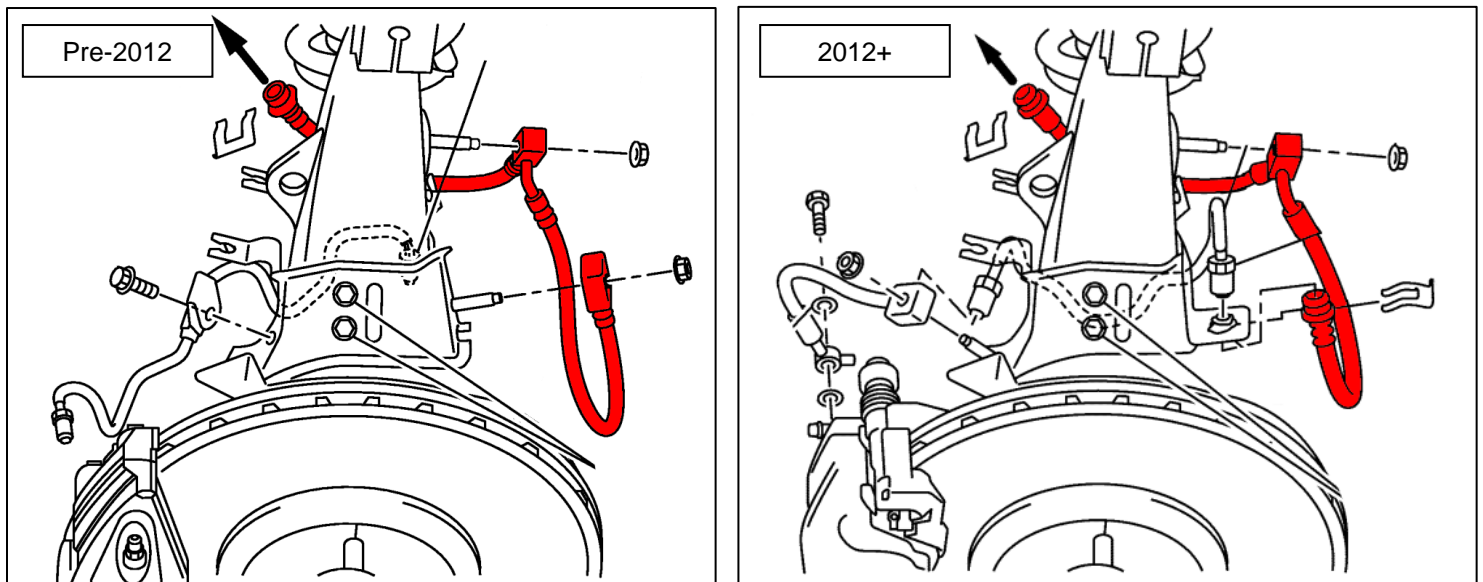

Figure 4
9. On the front of the vehicle, remove the (2) two pieces that make up the front Brake Line. Retain all hardware. *Figure 4.*